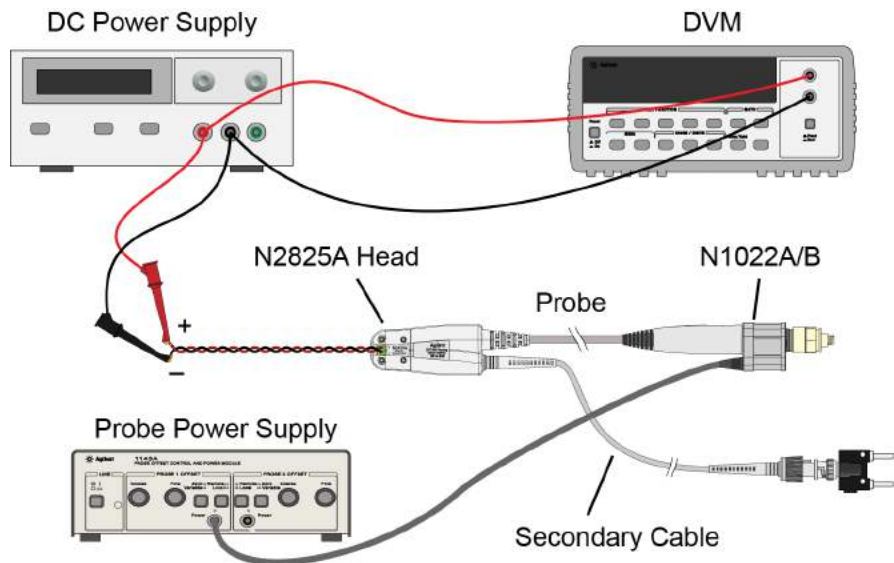

Figure 53 Test Setup for Measuring V_{in}
- 1 Snap an N2825A head onto the N2820/1A probe and connect the test equipment as shown in Figure 53. Be sure to connect the positive side of the DC supply to the red lead on the N2825A head.
- 8 Connect the multimeter on the DC power supply as shown in Figure 53 on page 107.